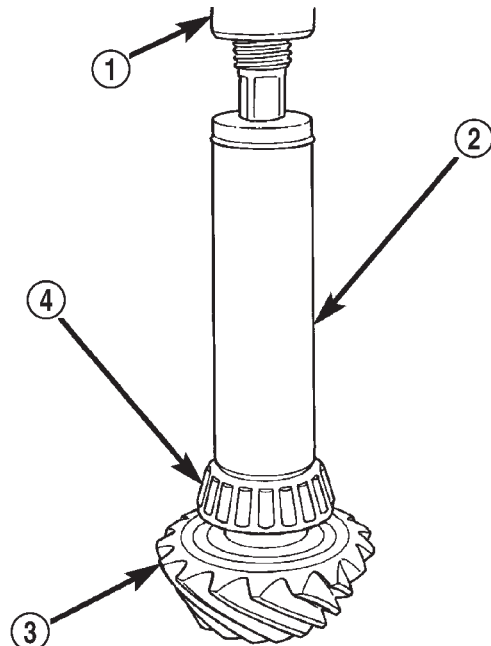

Fig. 33 Shaft Rear Bearing Installation 80be4607
(8) Install the rear bearing and slinger, if equipped, on the pinion (Fig. 33) with Installer 6448.